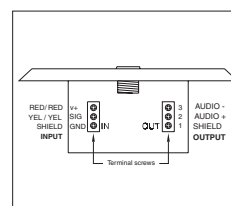
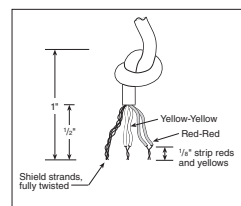

Figure 3
Figure 4
- If RFI immunity is not required, the TA3M-type connector on the plate can be removed and discarded (save the back nut and washer). Assemble the included plastic ferrule into the hole left from the TA3M-type connector, using the washer and nut from the connector to secure the ferrule. Cut the cable to the desired length plus a few inches. Thread the cable through the ferrule and tie a knot in the cable behind the ferrule to secure it. Carefully strip the ends of the cable and connect the wires to the terminals formerly occupied by the TA3M-type connector. Maintain color coding (Shield - S, Yellow - Y, Red - R) and connect the microphone wires to the appropriate terminal screws. (Fig. 3) **NOTE:** The cable has two red wires and two yellow wires. Twist the two red wires together and the two yellow wires together. (Fig. 4)